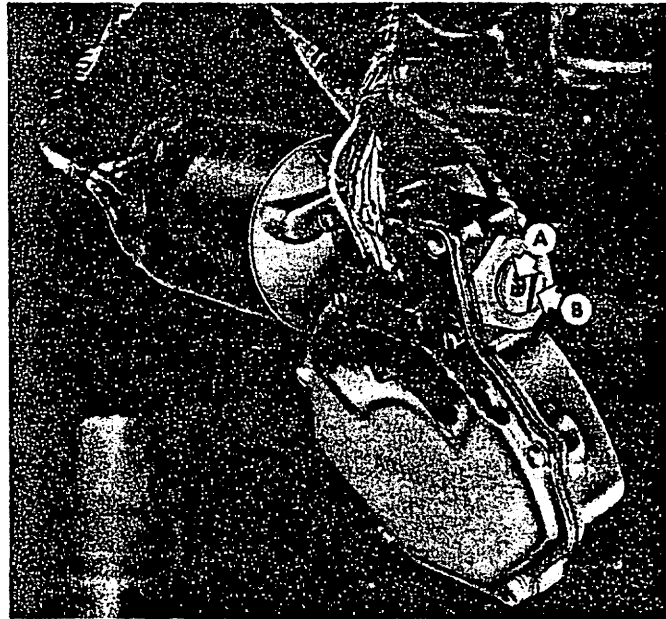

Fig. 4 ANTI-HUNT ADJUSTMENT
1. Back off the armature thrust screw (center screw) ("A" Fig. 4) on the right end of the casting several full turns.
3. If hunting does not occur back off the outer adjustment screw ("B" Fig. 4) slightly and tap the side of the motor sharply with a soft hammer while moving from "R" to "P" and "P" to "R". Continue to back out the adjustment screw until hunting occurs.